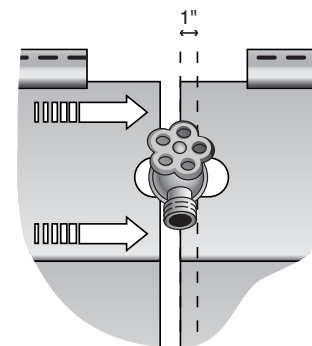

Fig. 4
- When cutting, match the shape and contour of the obstruction. (Fig. 4)